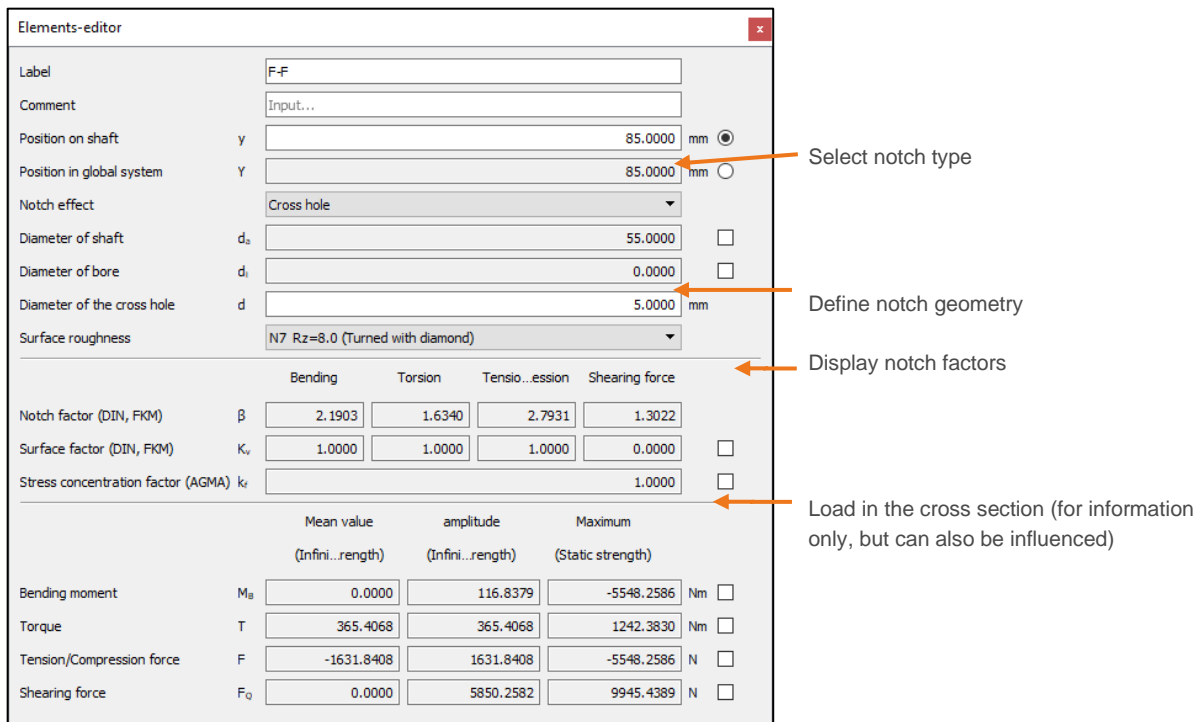

Figure 27. Definition of notch in cross section F-F
- Complete the notch details (see Figure 27), (here: cross hole with 5 mm diameter)